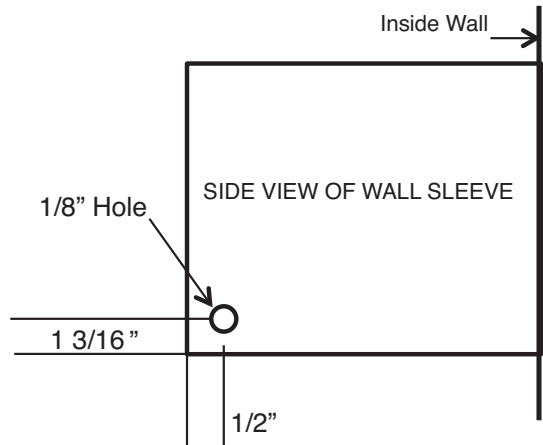

Figure 2
2. Mark the hole location on sleeve then drill 1/8in holes. See Figure 2 for hole dimensions on sleeve.